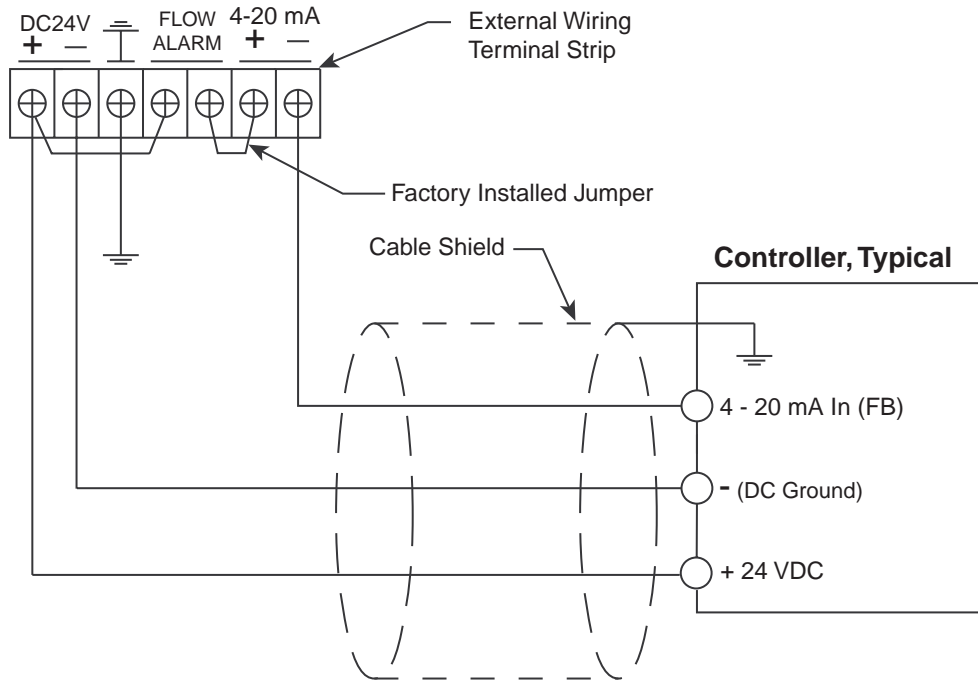
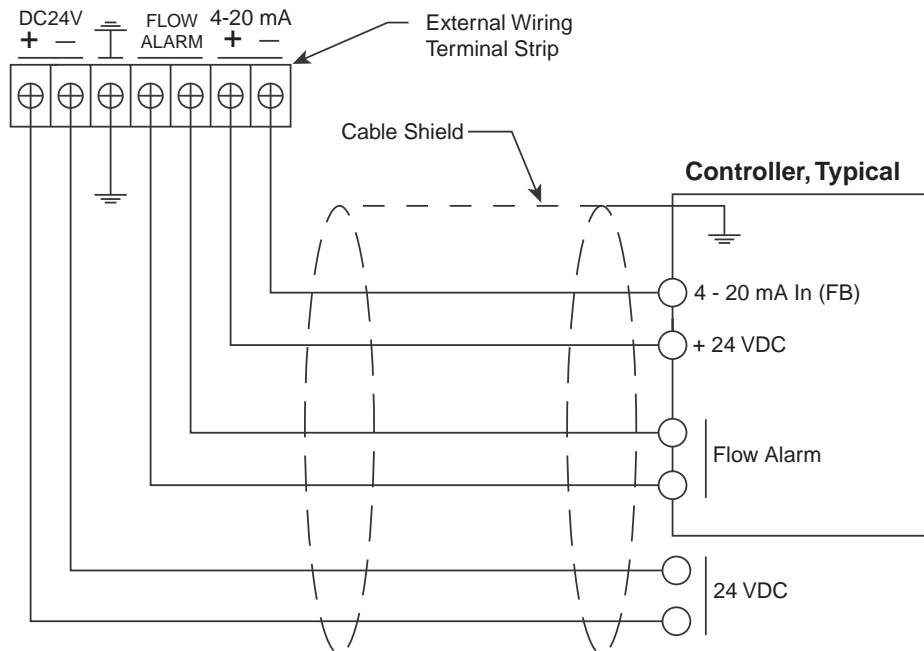

Figure 8: Wiring the GD-K7D2 to a Controller Without Flow Alarm Terminals
Figure 9: Wiring the GD-K7D2 to a Controller With Flow Alarm Terminals
A three conductor cable is used when the GD-K7D2 is wired to a controller that does not have flow alarm circuitry and flow alarm terminals for connection to the GD-K7D2 (see Figure 8 below). In this case, a jumper is factory installed between the second and third terminals from the right and the fourth and seventh terminals from the right. If these jumpers are not installed and the GD-K7D2 is being connected to a controller without flow alarm terminals, install 20 gauge wire to make these jumper connections.
A six conductor cable is used when the controller has flow alarm circuitry and flow alarm terminals for connection to the GD-K7D2 (see Figure 9 below).
4. Connect three or four wires between the GD-K7D2 and the controller as shown in Figure 8 or Figure 9 depending on the controller used.
- If using a controller with flow alarm terminals, connect the remaining two wires to an appropriate 24 VDC power source as shown in Figure 9.
5. If providing 24 VDC from a source other than the controller (see Figure 9), turn on or plug in the incoming DC power to the GD-K7D2.
If the controller is the type that does not have flow alarm terminals, see Figure 8, then the GD-K7D2 will interrupt the 4 - 20 mA signal to the controller. This will cause the controller to indicate a fail alarm.
If the controller is the type that has flow alarm terminals, see Figure 9, then the GD-K7D2 will cause the controller to go into low flow alarm. See the controller instruction manual for more information.